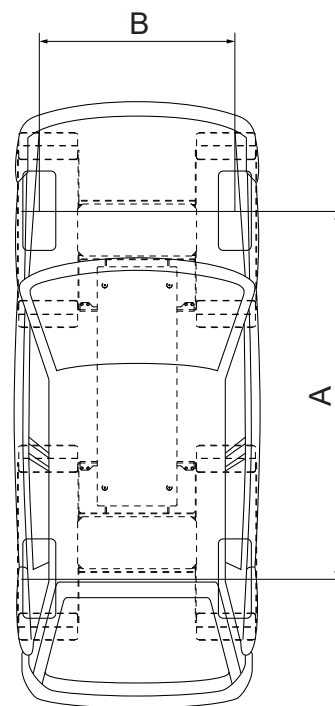

Fig. 2
- Minimum distance between lifting points (A): 2500 mm (Fig. 2).
- Minimum wheel track (B): 1500 mm (Fig. 2).